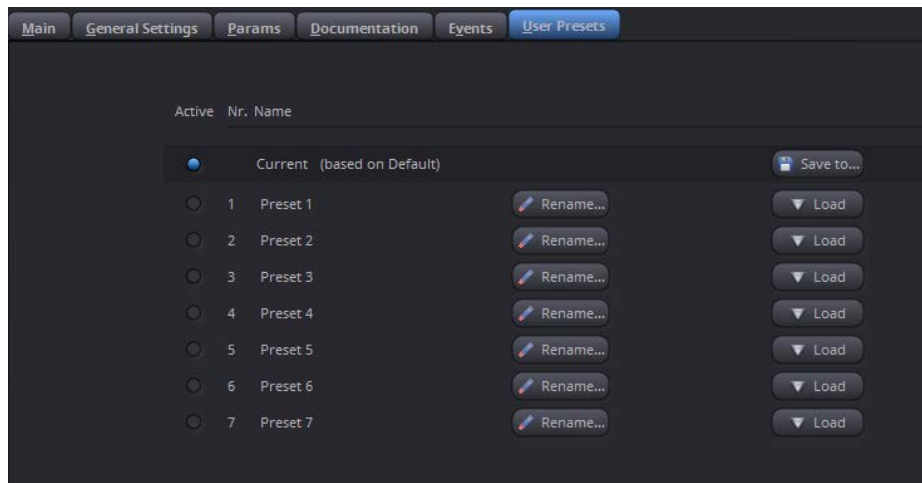

Figure 22: User Presets Tab
1. On the “User Presets” Tab, click the button “Save To” to open the dialog shown in Figure 22